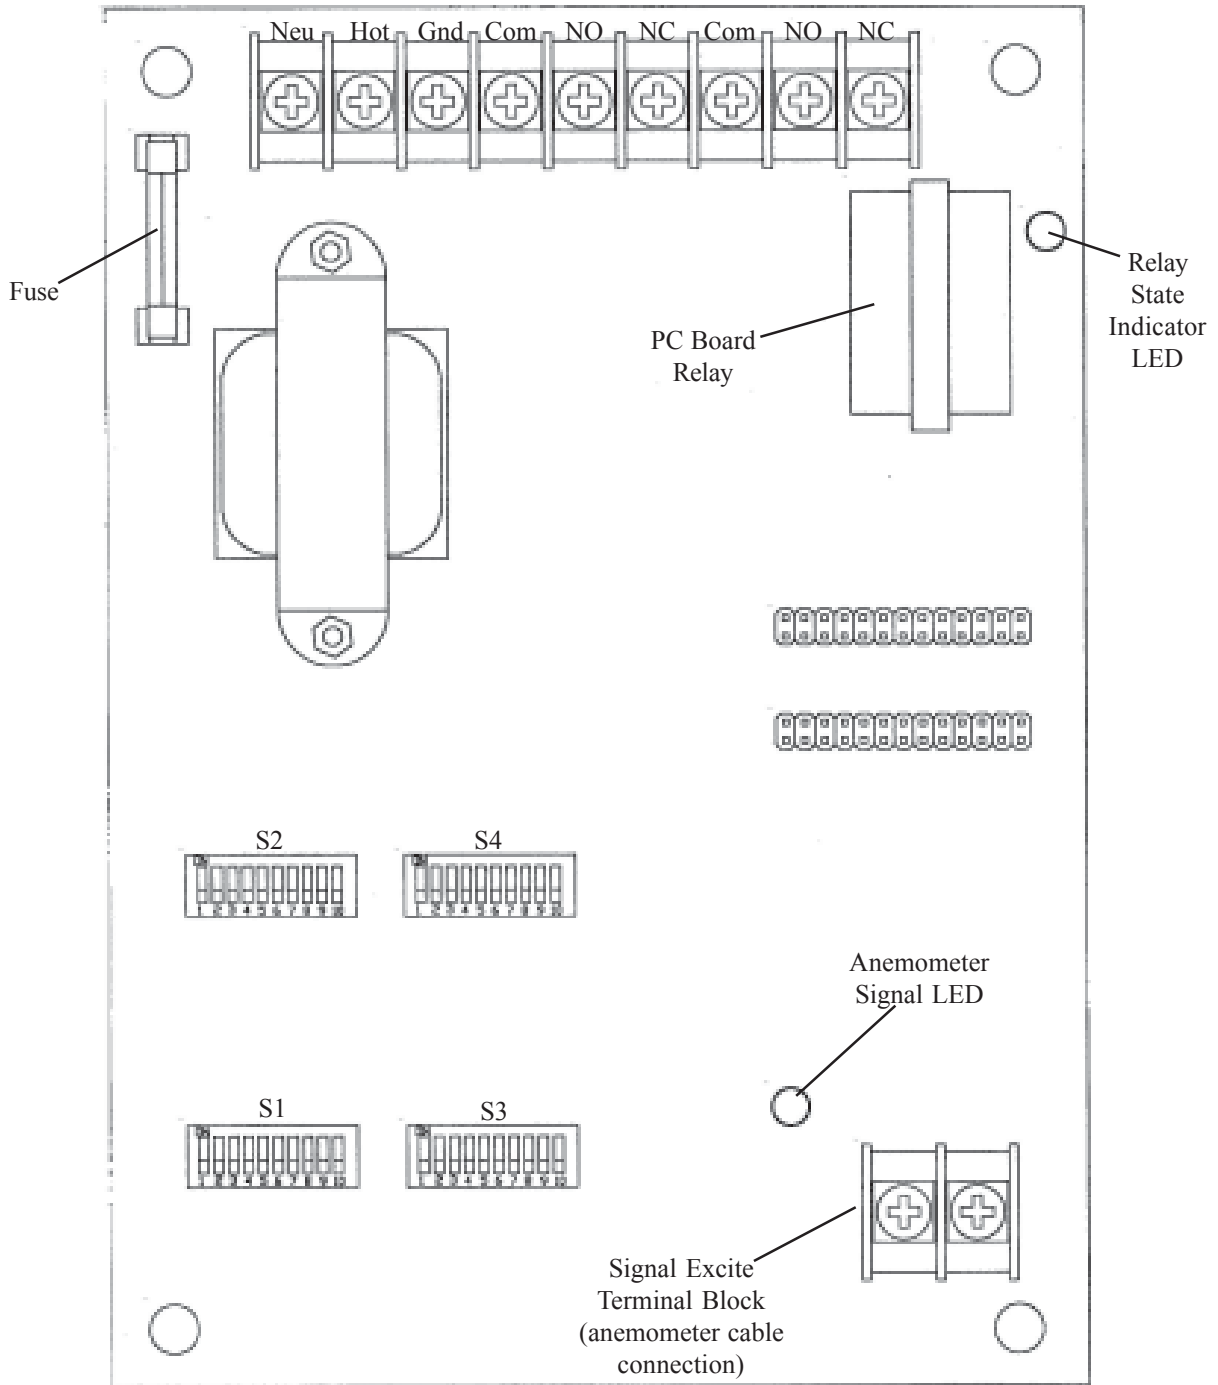

Figure 3
1. Connect the anemometer cable to the Signal Excite Terminal Block on the PC Board (See Figure 3). Polarity is not important. The anemometer comes standard with 60 feet of cable. If more than 60 feet is needed, simply splice additional wire to it for the desired length (18awg wire MIN). Splice must be water tight.
The anemometer signal LED (See Figure 3) will be flashing on the PC Board when it is picking up a signal from the anemometer.
When the PC Board senses a wind speed greater than the set wind speed the Relay State Indicator LED (See Figure 3) will be ON. If this is not the case, the PC Board Relay (See Figure 3) or the PC Board will need to be replaced.